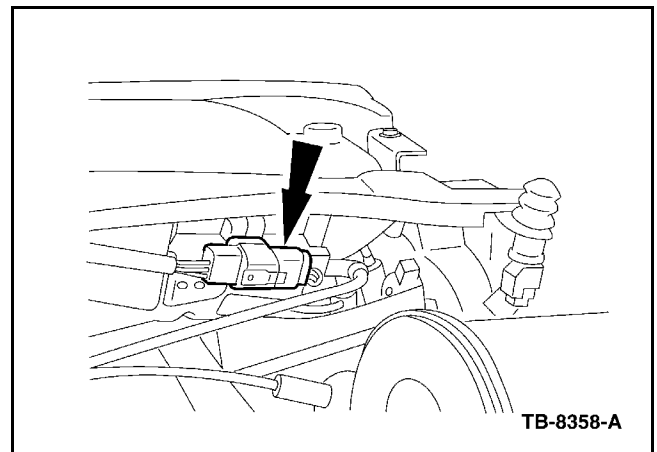

Figure 11 - Article 088-2005-5551
16. Connect the electrical connector (Figure 11).